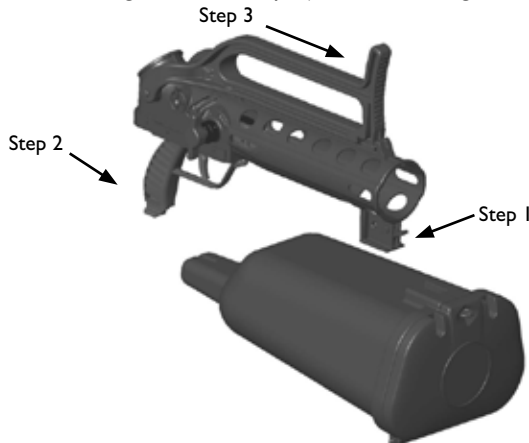

Figure 11a - Connecting the Launcher to the Line Container
1. Place the inverted "T" bracket (on the bottom of the Barrel at the front) on top of the line container; just behind the inverted "T" groove on the upper portion of the front of the line container. (Fig. 11a - Step 1)
2. Locate the bottom of the handle so that notches on the handle will engage with the flange at the rear of the line container. (Fig. 11a - Step 2)
3. Slide the launcher forward inside both the front and rear grooves of the line container simultaneously. Push firmly forward until the catch on the launcher automatically engages in the locking hole in the line container. (Fig. 11a - Step 3)